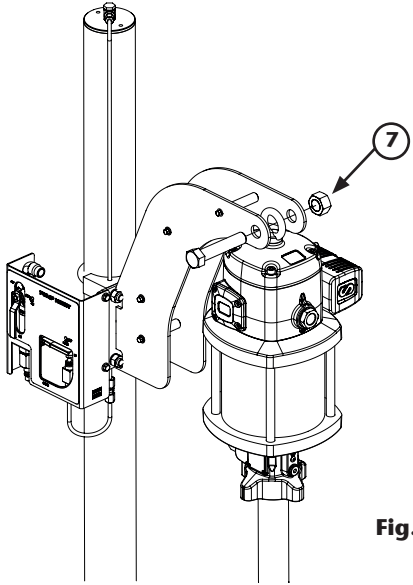

Fig. 6
3. Only for model 391022. Fix the pump through eye bolt with bolt and nut (7) (fig. 6).